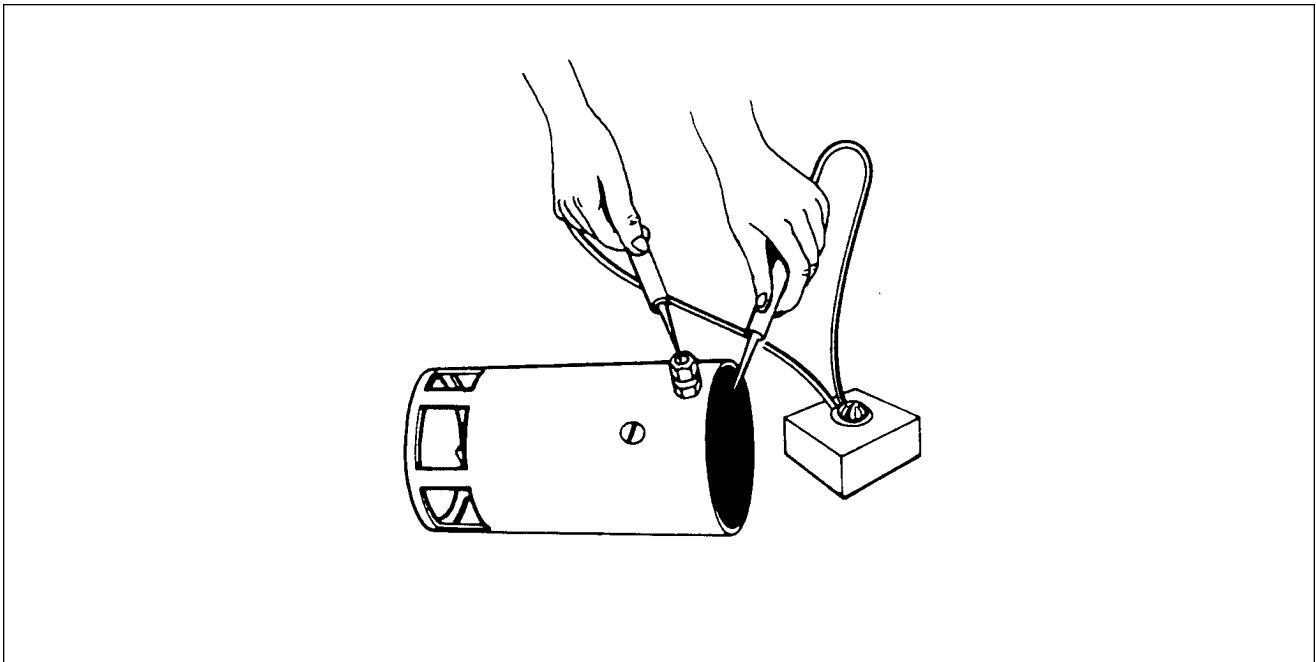

Figure 80-4. Testing Motor Fields for Grounds
1. Check field coils for grounds (refer to figure 80-4) by placing one test probe on frame and other on starter terminal. Be sure brushes are not accidentally touching frame. If lamp lights, fields are grounded. Repair or replace.